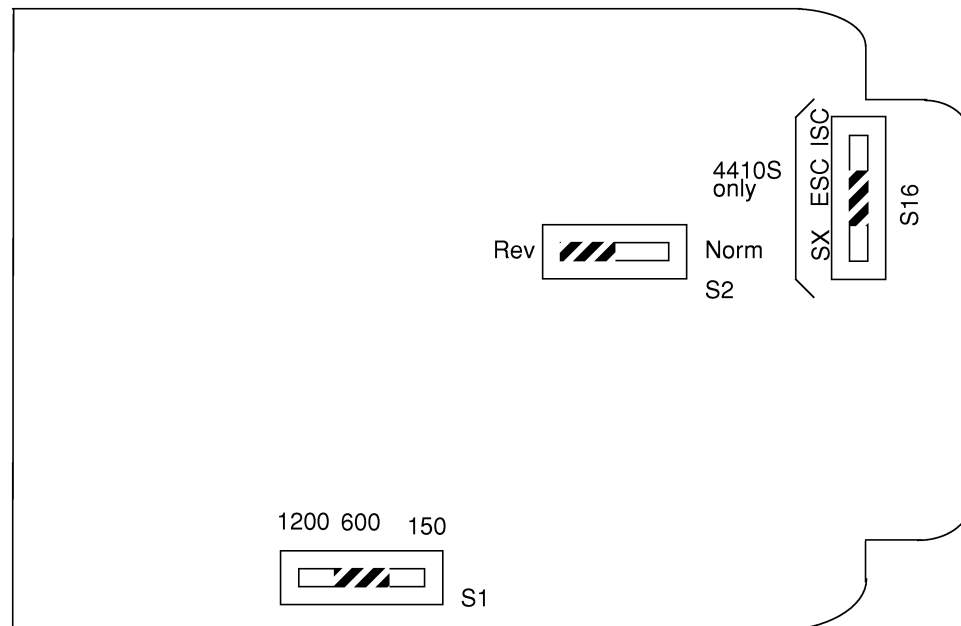

Figure 2-1 4410/S Option Switch Locations
- 2.5 Because optioning and alignment of the 4410/S are performed via slide and DIP switches, prescription optioning and alignment are possible for each module. Figure 2-1 shows the locations of the option switches on the modules' printed circuit board, and Table 2-2 summarizes all option-switch settings. For prescription optioning and alignment, all required option-switch settings and all required transmit and receive transmission-loss settings should be determined from circuit records prior to installation of the module. These required option and alignment settings should then be noted in the checklist column of Table 2-2 or on the Circuit Layout Record (CLR), if preferred. Then during installation, the module can be quickly and easily optioned and aligned without referring to the instructions that follow in paragraphs 2.6 and 2.7. Simply refer to the checklist column of Table 2-2 (or to the CLR) and set all option and alignment switches as indicated.
- 2.6 Two option switches on the 4410 and three on the 4410S must be set before either module is placed into service. Locations of these switches on the modules' printed circuit boards are shown in Figure 2-1. Set each switch as directed in the appropriate portion of Table 2-2.